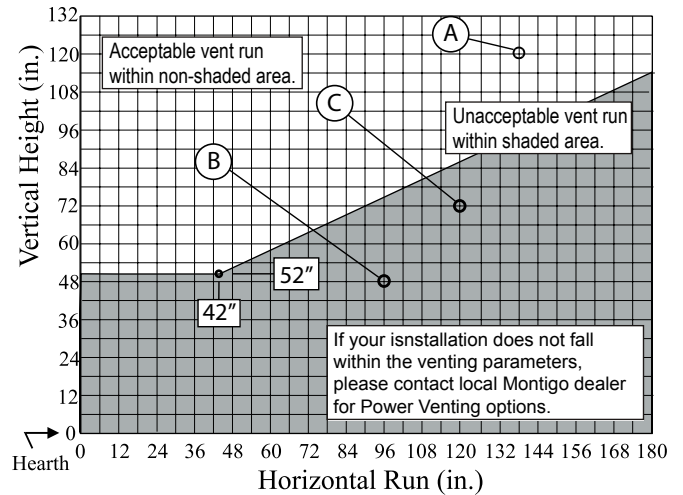

Figure 12. Side Vent Venting Graph for wall mounted terminations.
- Venting runs must fall within the limits set by the venting graphs, see Figure 12.
Measure the vertical height from the fireplace hearth to the centre of the termination and the horizontal run from the fireplace flue collar to the wall flange of the termination. Plot on the Venting Graph Figure 12 with an 'X'.
Figure 12a Side Vented, wall mounted Multi-elbow termination installation. The vent run must comply with the Venting Graph for Side vent, wall mounted terminations, Figure 12.